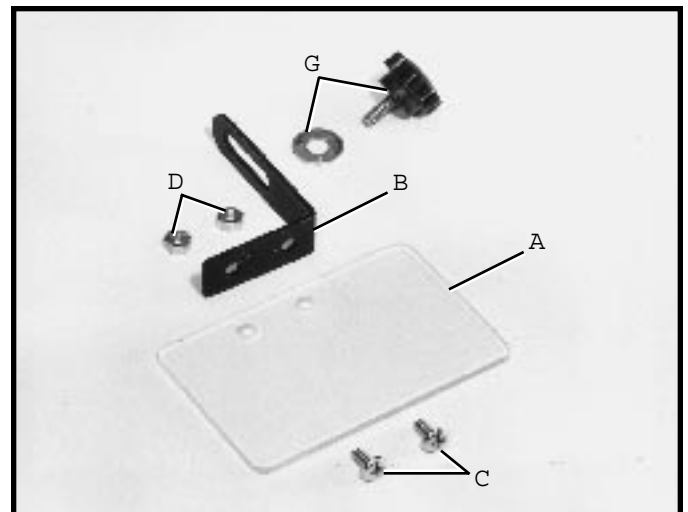
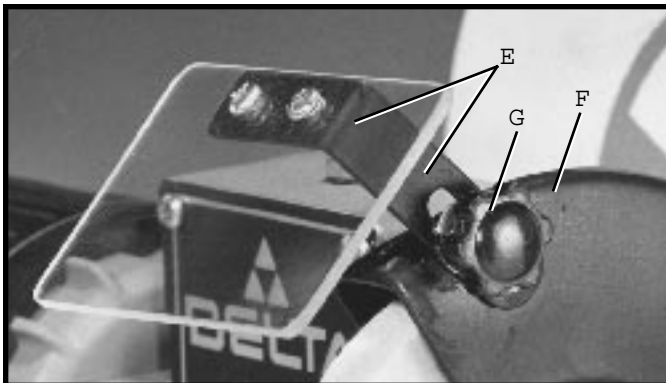

Fig. 2
Fig. 3
1. Fasten the eye shield (A) Fig. 2, to mounting bracket (B) using the two screws (C) and nuts (D).
2. Assemble eye shield and mounting bracket assembly (E) Fig. 3, to side of grinding wheel guard (F) using lock knob screw and washer (G) Figs. 2 and 3.